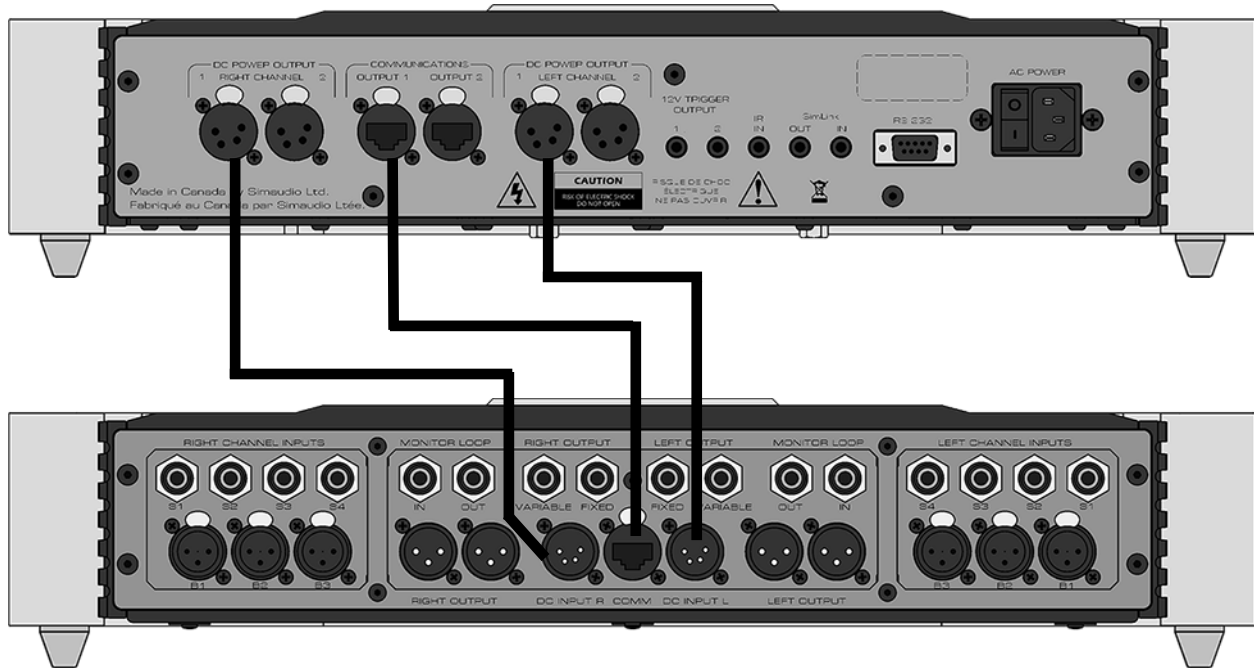

Figure 1: Connecting the MOON 850P Preamplifier (bottom) and 850P Controller (top)
There are three (3) connections that must be made between the **MOON 850P** Preamplifier's chassis and its separate controller chassis as shown above in Figure 1.